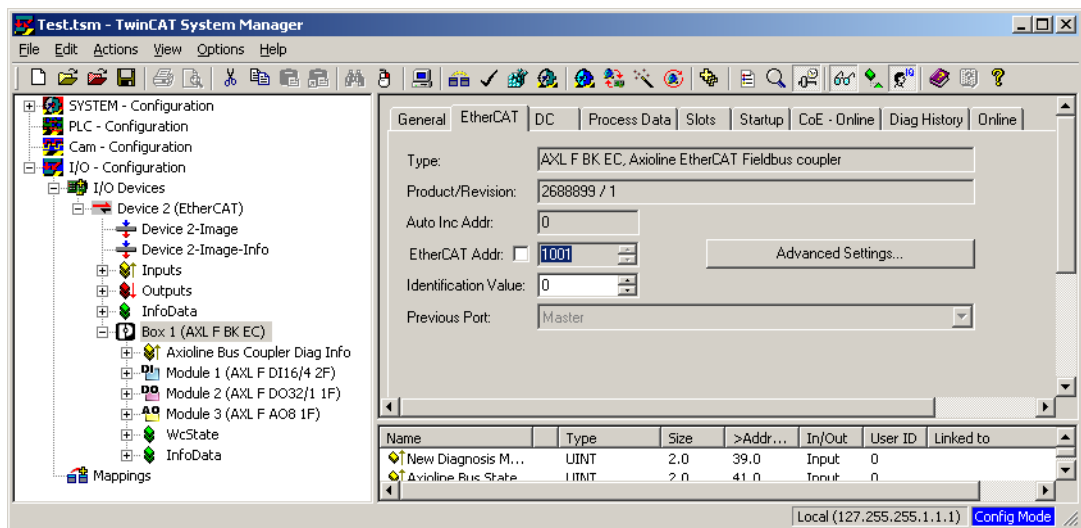

Figure A-1 Address view on the slave
- In the slave's address view (see Figure A-1), click the “Advanced Settings ...” button.